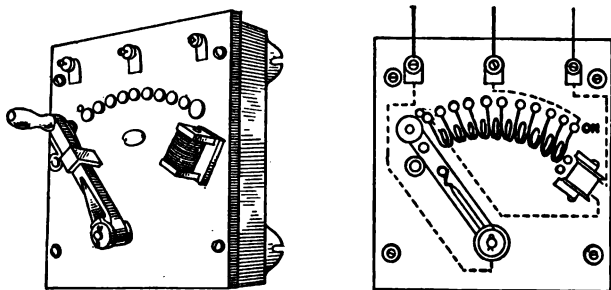

FIG. 257. — Starting rheostat.
**298. Rheostats and resistance boxes.** To control an electric current, we must regulate either the voltage or the resistance. As electricity is usually supplied to us at fixed voltages, such as 110, 220, or 500 volts, we have to control the intensity of the current by a variable resistance, called a **rheostat**. For example, in starting a motor, for reasons which will be discussed in Chapter XVIII, the current must not be thrown on at full intensity at first, and so a rheostat (Fig. 257) is inserted. By moving a lever arm the resistance is gradually cut out as the motor comes up to speed. Rheostats are usually made of some high-resistance alloy such as German silver, or of carbon (lamps), or sometimes of water with a little salt dissolved in it.